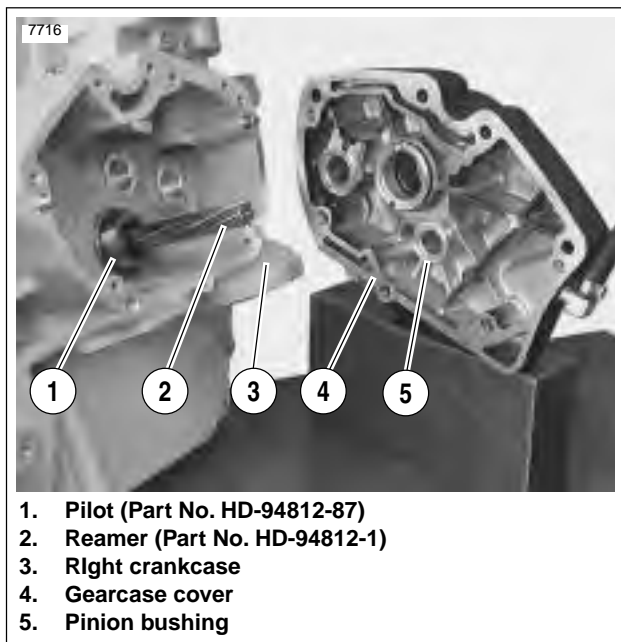

Figure 3-114. Line Reaming Pinion Shaft Bushing
2. See Figure 3-114. Install PINION SHAFT BUSHING REAMER PILOT (Part No. HD-94812-87) into right crankcase roller bearing. Insert PINION SHAFT BUSHING REAMER (Part No. HD-94812-1) through the pilot.